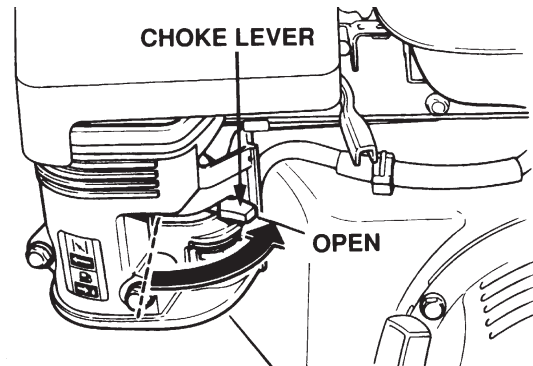

Figure 21. Choke Lever (Open Position)
5. If operating the Cutter 3 in **cold weather conditions**, skip this step and proceed to step 6. Place the **Choke Lever** (Figure 21) in the **OPEN** position. Skip to step 7.